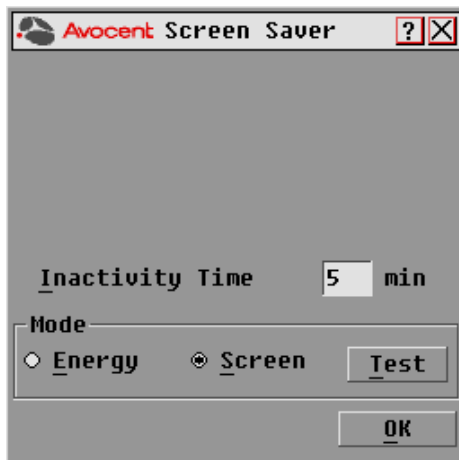

Figure 3.13: OSCAR Interface Screen Saver Dialog Box
2. Click *Setup - Screen Saver* to open the Screen Saver dialog box as shown in Figure 3.13.